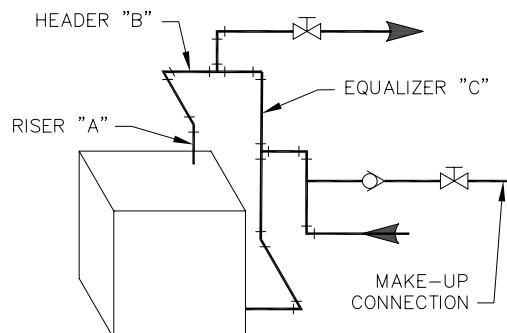

Figure 3.2: Steam Boiler Piping
2. See table below for pipe sizing. The return loop from system should always enter equalizer through the Hartford Loop, 2" to 4" below normal water line. See Figure 3.2.